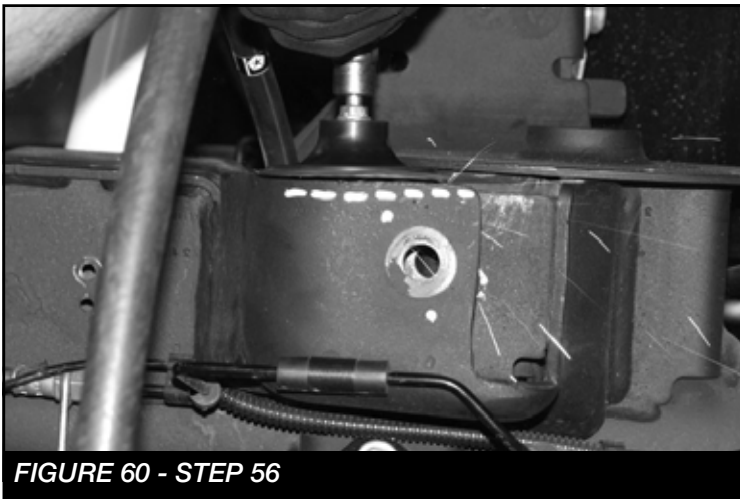

FIGURE 60 - STEP 56
56. Locate the FT44269BK rear track bar support bracket. TRIMMING MAY BE REQUIRED TO INSTALL THE NEW FT44269BK REAR TRACK BAR SUPPORT BRACKET. **SEE FIGURE 60**